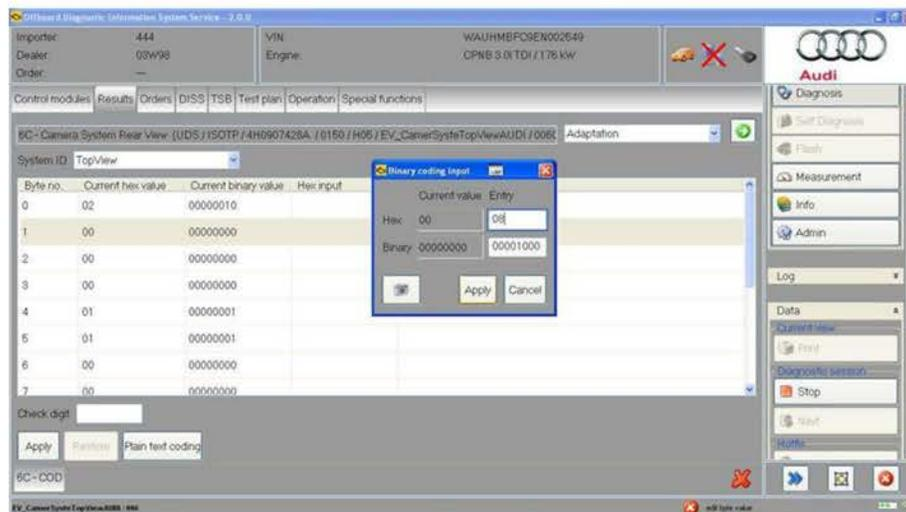

Figure 6. New HEX value entered. Click Apply button.
4. Apply the value (Figure 6).